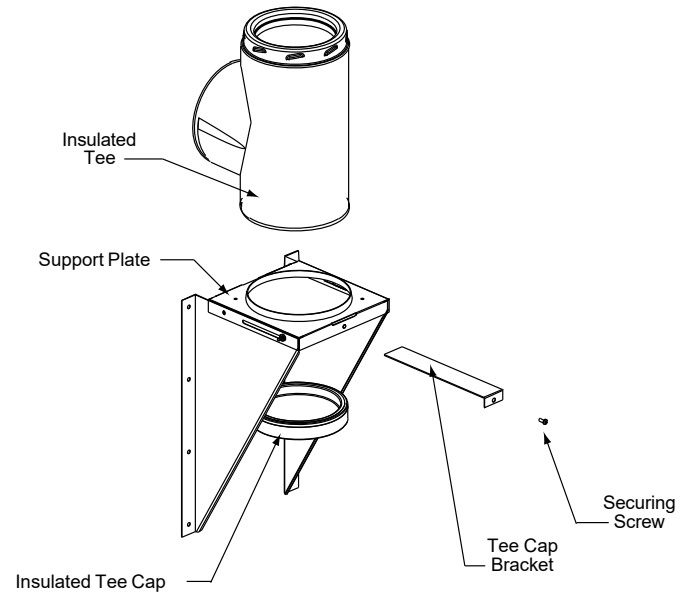

FIGURE 16 - Explosion View - Wall Support, Insulated Tee and Tee Cap, Tee Cap Bracket and securing Screw.
12. Place the Insulated Tee on the support Plate ensuring that the male coupler of the Tee is facing up and the flange on the top of the Support Plate slides into the female coupler (see Figures 16 & 17).
15. Insert the Insulated Tee Cap into the bottom of the Support Plate opening and secure by sliding the Tee Cap Bracket into both slots located at the front and rear of the Support Plate. Make sure the Tee Cap Bracket is beneath the Tee Cap and the other end is exiting through the slot at the back of the Support Plate. Secure in place by threading the securing screw into the nutsert located on the front of the Support Plate (Figures 16, 17 and 18).